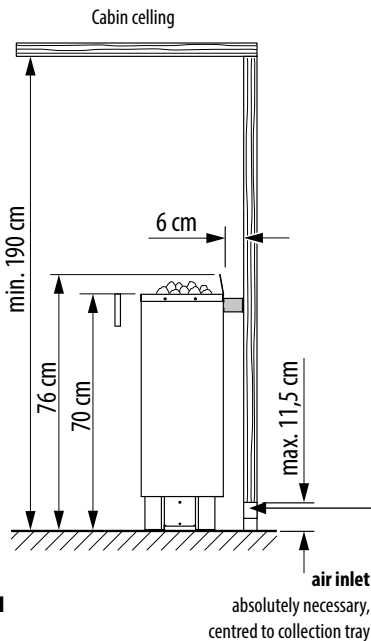

Fig. 1
- The minimum height of the sauna cubicle should be **1.90 m** on the inside (Fig. 1)